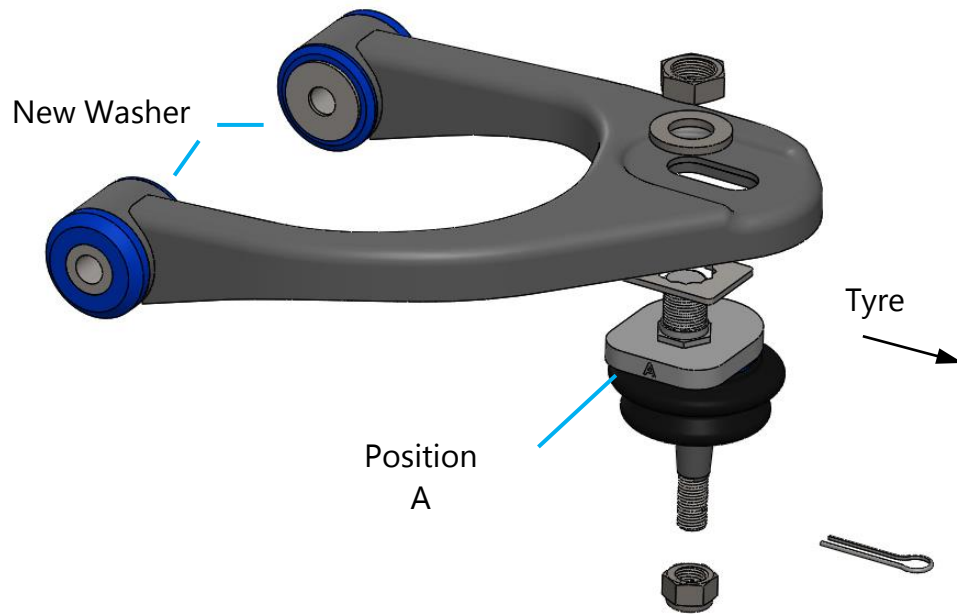

Figure 01 – Upper Control Arm installation - Ball joint in the position "A"
**Note washer arrangement in the illustration:** reuse the OE washers in the original positions and add the supplied washers to the inside, see Figure 01. Note the OEs washer are cupped and should be installed as per Figure 01. Torque bolt-nut to 115 Nm. **Important:** Unlike OEM rubber bushings, SuperPro bushings pivot freely and so can be torqued without applying vehicle weight;